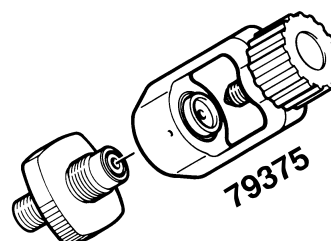

Fig. 24 International filling connector
- Air bottles with international filling connector can be connected with filling adaptor (PN 79375) to the German filling connector (see Fig. 24).